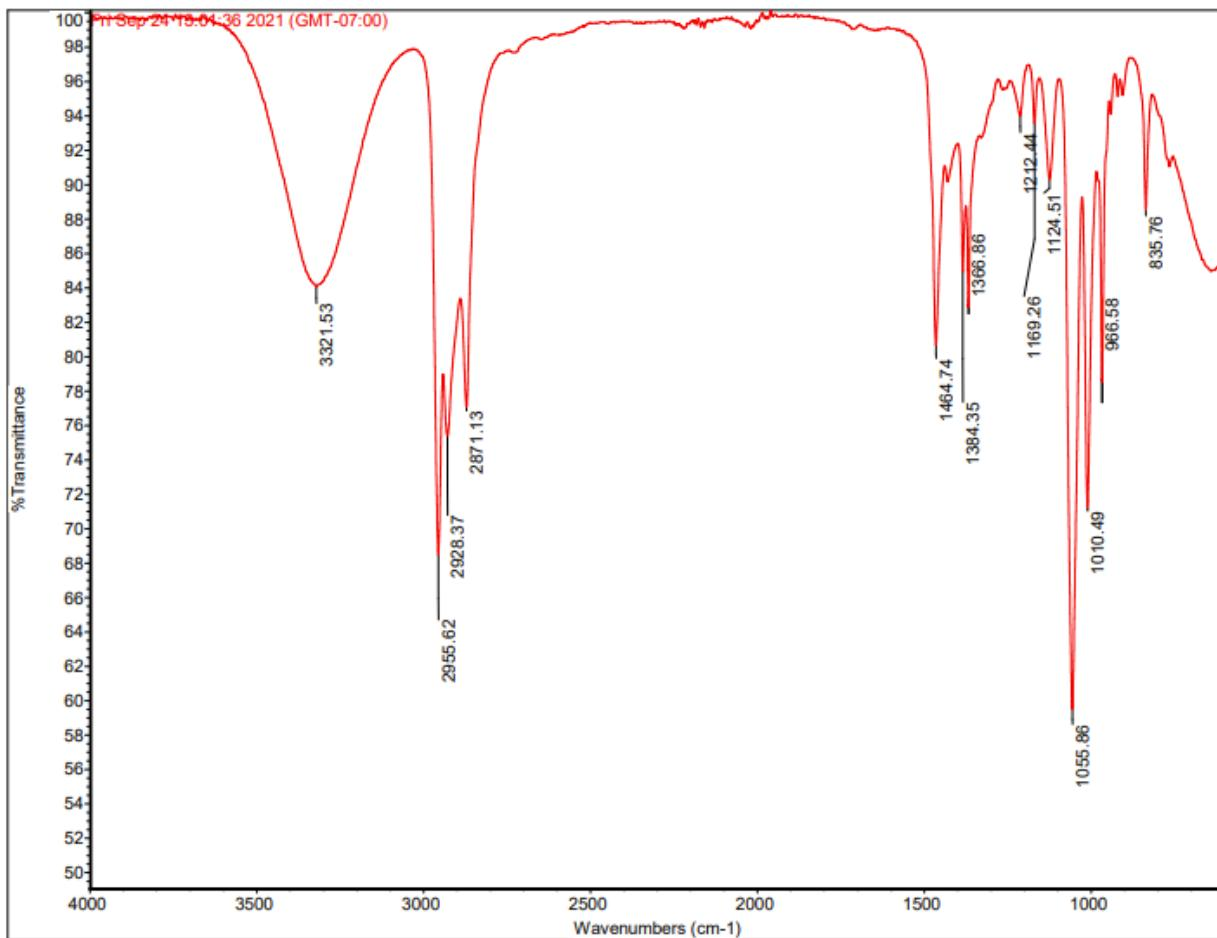

Figure 2. IR of the high boiling component of 3-methyl-1-butanol
- Complete the table using Figure 2: